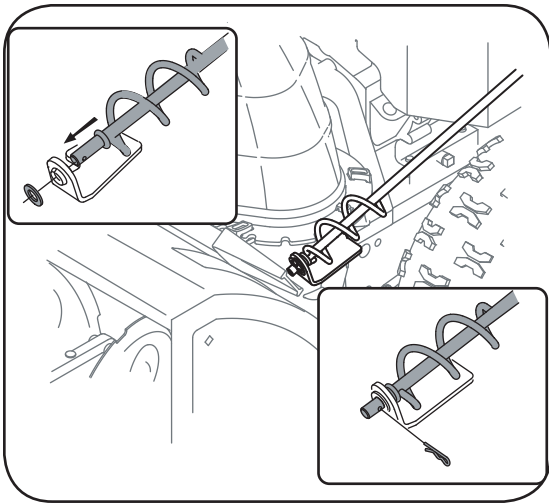

Figure 3-5
5. Remove the flat washer and hairpin clip from the end of the chute directional control. See Figure 3-5. Insert the end of the chute directional control into the lower bracket and secure with the flat washer and hairpin clip just removed. If necessary, the lower bracket can be adjusted. Refer to Chute Bracket Adjustment, in the Adjustment Section of this manual.